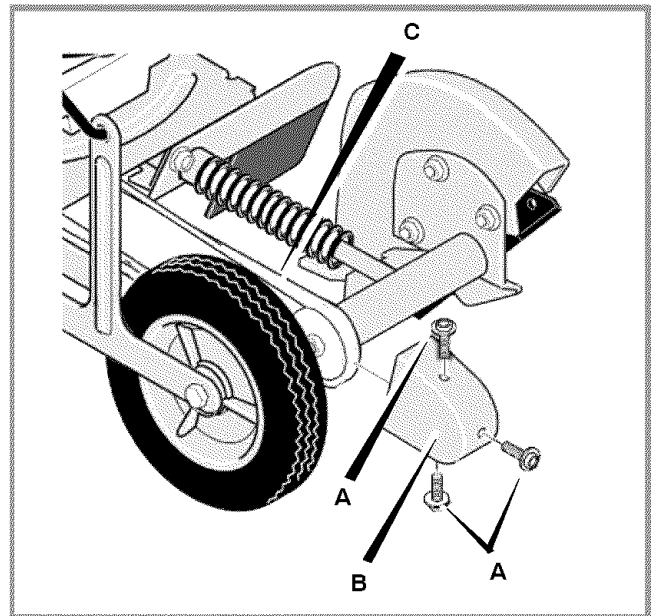

Figure 13: Belt Guard
- 3 Remove the screws (A) from the belt guard (B) (see Figure 13).